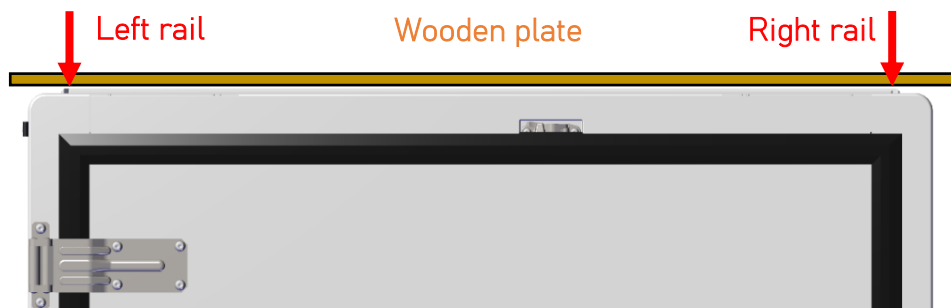

Figure 8 – Positioning of protective wooden plate on the container roof before stacking.
- If stacking with a lightweight object, always place a wooden plate, or similar, **large enough to rest on both rails (at least 1534 mm)** on the container roof to protect the photovoltaic panels (Figure 8).